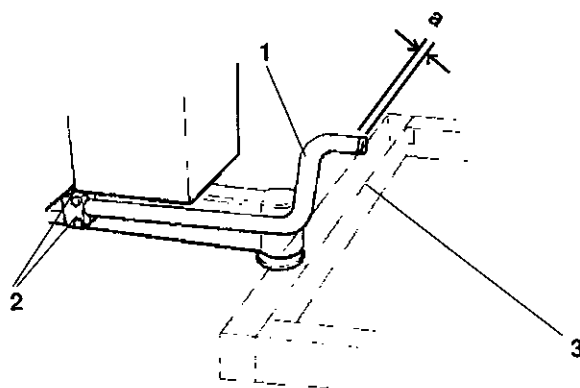

Fig. 3-9
- When the lift and the trolley hoist are adjusted after the rearrangement, the stop bolt (Fig. 3-9, 1) is tightened back up to a distance "a" of 5 to 10 mm from the trolley hoist (Fig. 3-9, 3) and reattached with the bolts (Fig. 3-9, 2).